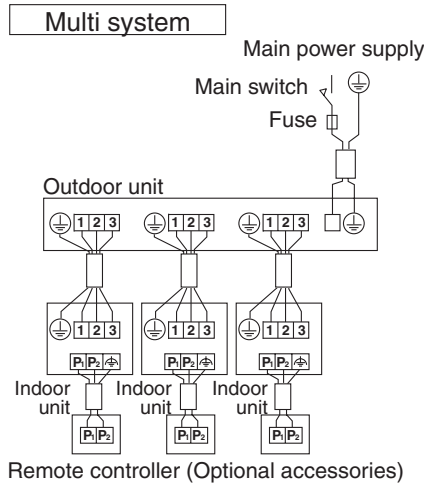

Fig. 25
- **Multi system:** 1 through 4 indoor units connect to 1 outdoor unit. The indoor unit is controlled by remote controller connected to each indoor unit. **(Refer to Fig. 25)**